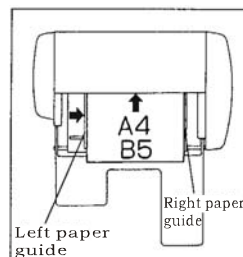

Figure 9
(1) After loading paper, make sure to push the left paper guide toward the right side and make the right side of paper closely against the right paper guide and the left and right paper guides are level.
(2) Place the longer edge of A4- and B5-size paper horizontally and the shorter vertically. (Figure 9)